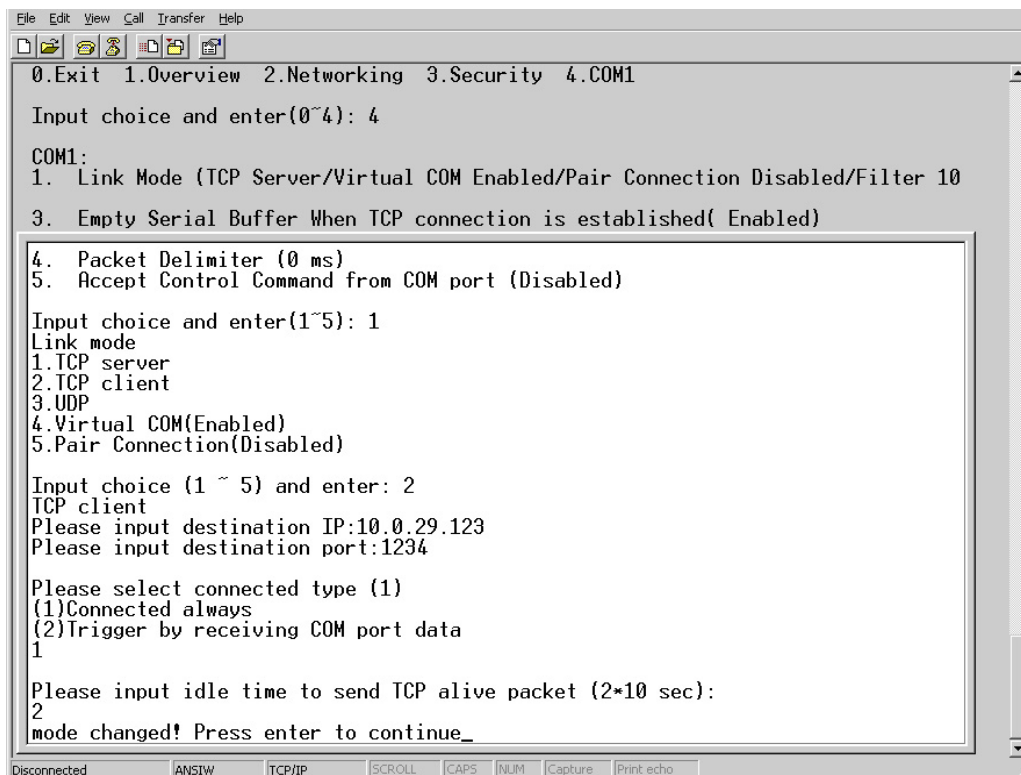

Figure 3.11 Link Mode-TCP client setup
1. Type **2** in the **Input choice (1~5)** and enter : (Figure 3.11)